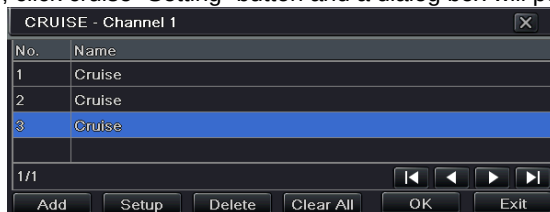

Fig 4.39 Cruise Set
Step 3: In the Advance interface, click cruise "Setting" button and a dialog box will pop-up like in Fig 4.39.